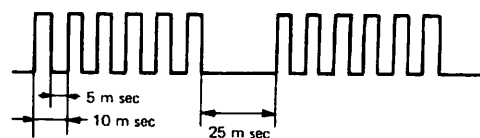

Figure 13-2 Output for low speed motion
After that, there is caused a pulse at pin ③ for the motor normal rotation or a pulse at pin ④ for the motor reverse rotation as shown in Fig. 13-2, so that a power voltage of about 6.5V is applied to the cartridge motor.
The output from pins ③ and ④ of the microcomputer are processed to be 50% of their original duty and used to stabilize the low speed rotation of the cartridge motor — see Fig. 13-2.